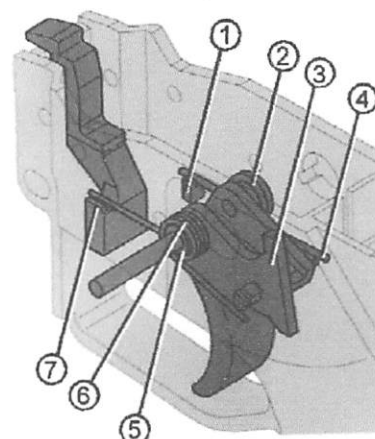

Fig. 64 Assembly position of the trigger springs
- ⇒ Engage trigger springs (Fig. 64/2 and 6) on lugs (Fig. 64/5) of trigger as indicated in Figure 64.
- ⇒ Engage rear end of right trigger spring (Fig. 64/2) into the support (Fig. 64/4) on trigger.
**Engage the forward end of the left trigger spring (Fig. 64/6) into the support of the catch.**
- ⇒ Place trigger with trigger springs into the pistol grip. Push them towards the bottom. In doing so, engage the forward ends of the springs into the supports of the catch (Fig. 64/7).